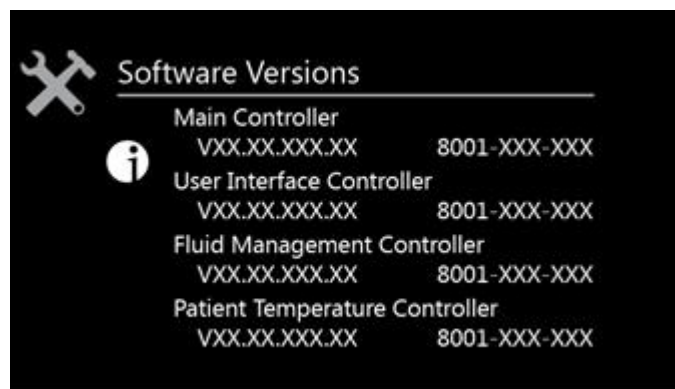

Figure 5 – Software versions, sample screen
2. Displays controller software versions (Figure 5).